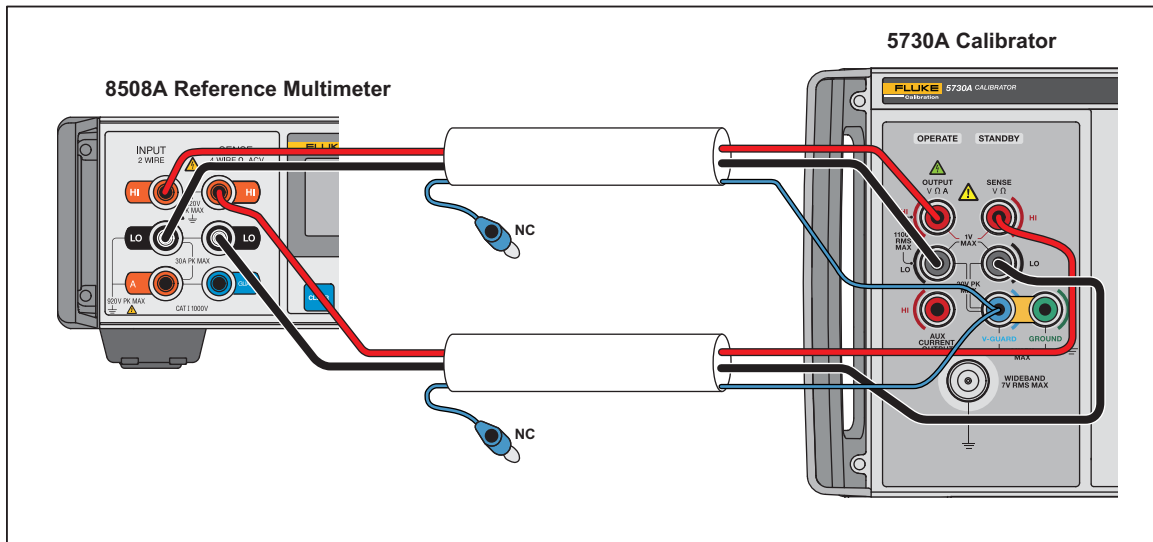

Figure 10. 0  $\Omega$ , 1  $\Omega$ , 1.9  $\Omega$  Resistance Verification
1. Connect the DMM to the Product as shown in Figure 10 using the 5730A-7003 cables.
8. Connect the DMM to the Product as shown in Figure 10.